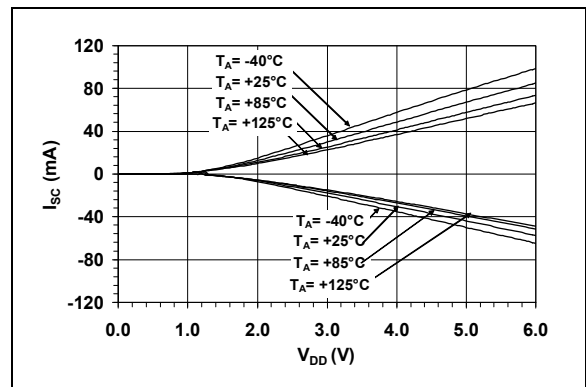

FIGURE 2-30: Short Circuit Current vs. Supply Voltage vs. Temperature.
- Note 4:** The pull-up voltage for the open drain output V_{PULL_UP} can be as high as the absolute maximum rating of 10.5V. In this case, I_{OH_leak} can be higher than 1 μA (see Figure 2-30).